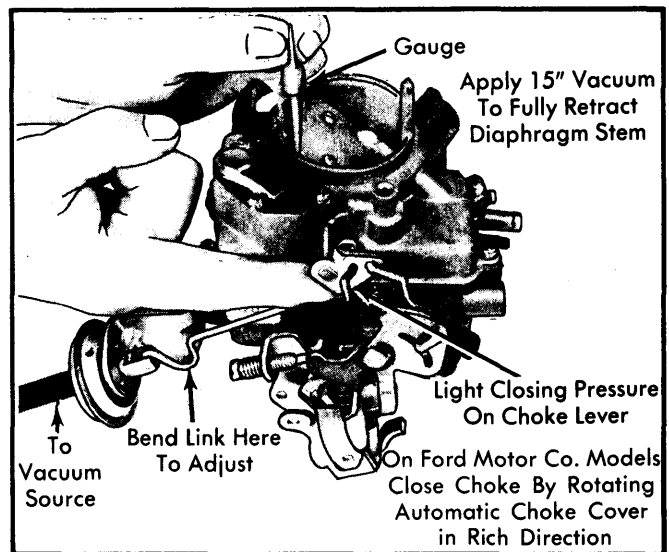

Fig. 5 Adjusting Choke Vacuum Kick (Choke Pulldown)
- 1) On Chrysler Corp. models, open throttle then close choke. Now close throttle to trap fast idle cam at closed choke position. See Fig. 5.